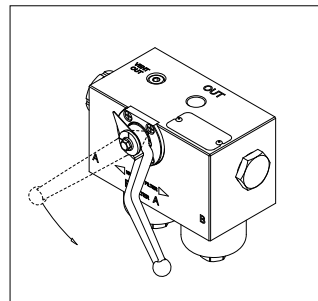

fig. 2
- (Fig. 2) Turn the switching lever through 90 degrees to start the NEW SIDE and release the WASTE SIDE. The air in the system could cause vibrations, back pressure, or components damages